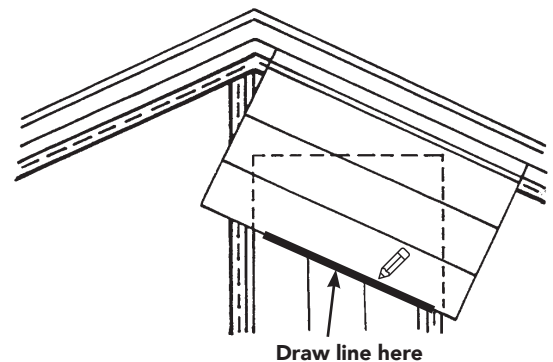

Figure 61
- Make a pattern for end cuts along the gable using two pieces of scrap siding (Figure 61). Lock one piece into the vertical strip at the center of the wall. Hold the edge of the other piece against and in line with the roof line. Mark the slope on the vertical piece and cut along that line. Use it as a pattern to mark and cut the ends of all other panels required for this side of the gable end. Make another pattern for the other side of the gable.